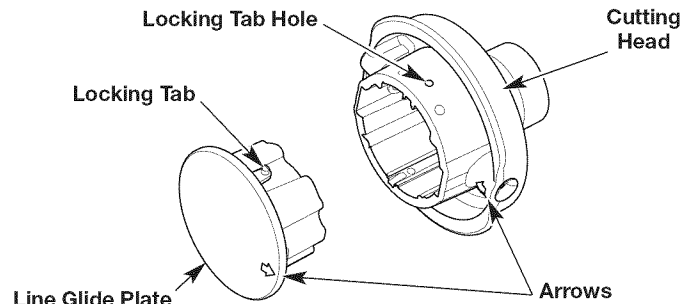

Fig. 10
2. Insert a small Phillips screwdriver into the locking tab hole and push the locking tab inward (Fig. 10). At the same time, pull the line glide plate out of the cutting head.
4. Align the arrow on the line glide plate with the arrow on the cutting head (Fig. 10).